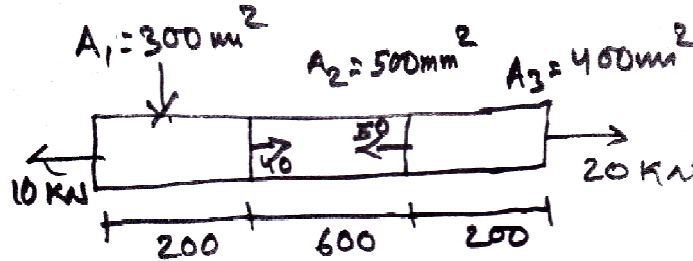

Fig. 2
- Q:2 (b) A member ABCD is subjected to point load as shown in Fig.2 determine the total change in length of the member take $E = 200 \text{ GPa}$. Fig 2 (05)